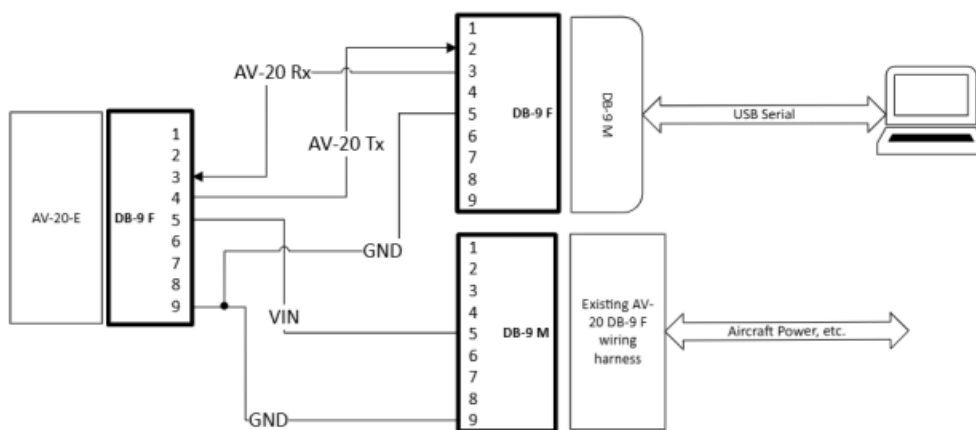

Figure 2 'Go Between' Update Harness Schematic
4. If a tailBeaconX is installed, we recommend building a new “Go Between” wiring harness just for updating software rather than modifying the existing harness. An example is shown in Figure 1. The wiring schematic is shown in Figure 2.